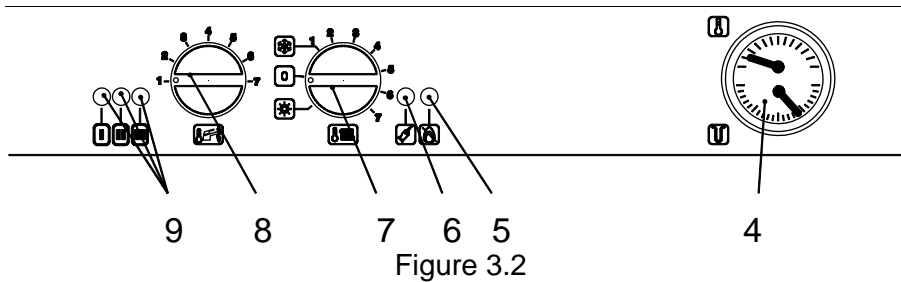
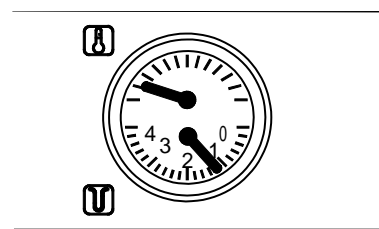

Figure 3.2
Figure 5.1
Three lights (9 in Fig. 3.2) give detailed indication regarding the operation of the boiler. The following table gives the relationship between each of the possible light combinations and their meaning.
- Ensure that the Central Heating circuit is regularly filled with water (even if the boiler is only used for d.h.w. supply) checking that the pressure indicated on the temperature and pressure gauge (4 on figure 3.2) is not lower than 1 bar (14.5 psi) as shown on figure 5.1.
- The temperature and pressure gauge (Fig. 5.1 on page 12) will allow you to check that the set temperature is obtained.
- You should check that the pressure on the temperature and pressure gauge (Fig. 5.1 on page 12) is not below the correct setting.
If the pressure on the temperature and pressure gauge (Figure 5.1 on page 12) has gone down: